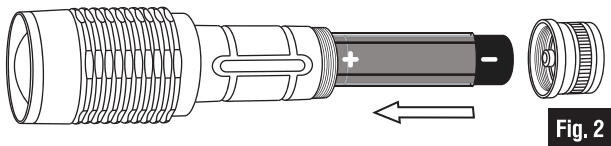

Fig. 2
- 2 Insert (1) 18650 Battery into flashlight.** Insert battery “+” end first and reattach the Tailcap (Fig. 2).
FLASHLIGHT OPERATION: Insert the plastic Battery Sleeve into the flashlight as shown (Fig. 2). Insert one lithium-ion 18650 battery by inserting the “+” end into flashlight first as shown (Fig. 2). Replace tailcap by turning clockwise. **Overtightening the Tailcap** can damage the O-Ring.